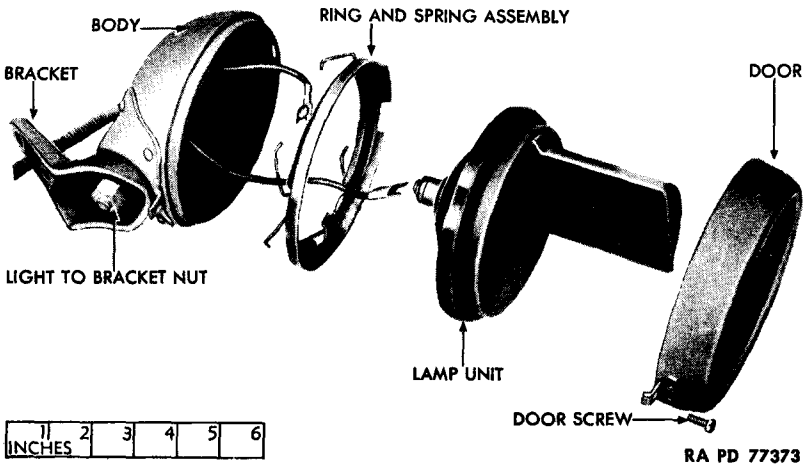

Figure 99 – Blackout Driving Light Disassembled
(1) **DESCRIPTION** (fig. 99). The blackout driving light, attached to cowl above left headlight, is used while the vehicle is being operated during blackouts. The lens is opaqued except for a small portion at the top which is covered with a shield. The lamp, reflector, lens and shield are one sealed beam lamp-unit.